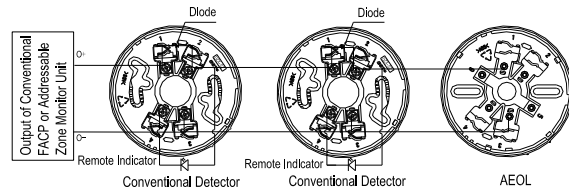

Fig. 4
- If the AEOL is used as the detector base, a conventional detector can be installed on it. The system composition is shown in Fig. 4.
The testing area of the detector is shown in Fig. 4.